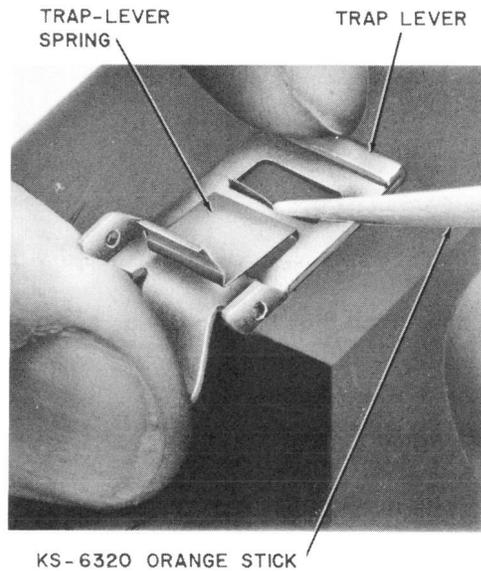

Fig. 16 — Bending Trap-Lever Spring
- (1) Place trap-lever and spring on a flat surface (Fig. 16).
(2) Use a KS-6320 orange stick to bend trap-lever spring around center bar of trap-lever (Fig. 16 and 17).